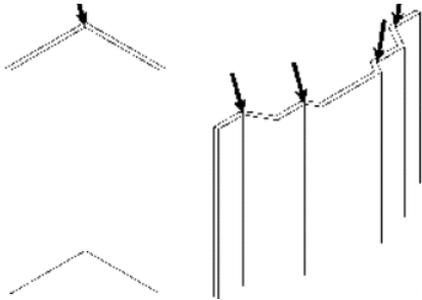

Figure 29. Posts and Inside Corners
2. For exterior applications only, all film applied to inside (concave) corners must be cut. See Figure 29.